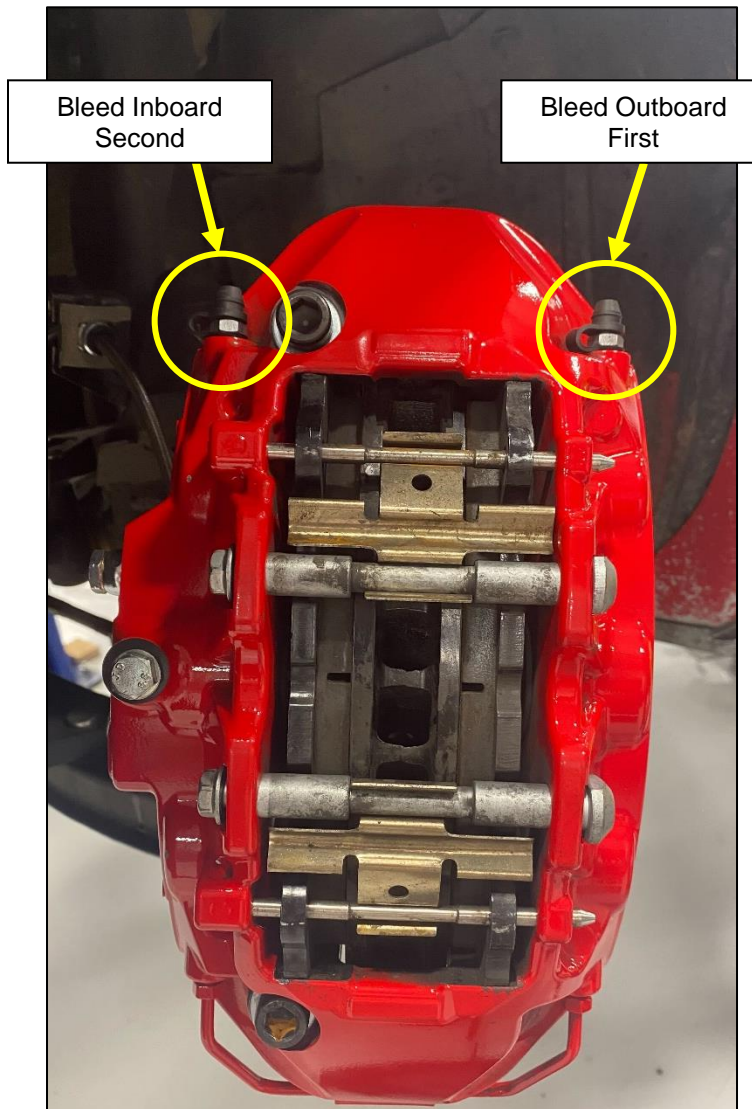

Figure 16
22. Bleed the brakes. If you are also installing rear brakes/brake lines, wait until those are installed to bleed the system. The Track Calipers have (2) two Bleeder Ports. When bleeding the system, bleed the Outboard Port first, then bleed the Inboard Port. *Figure 16.*